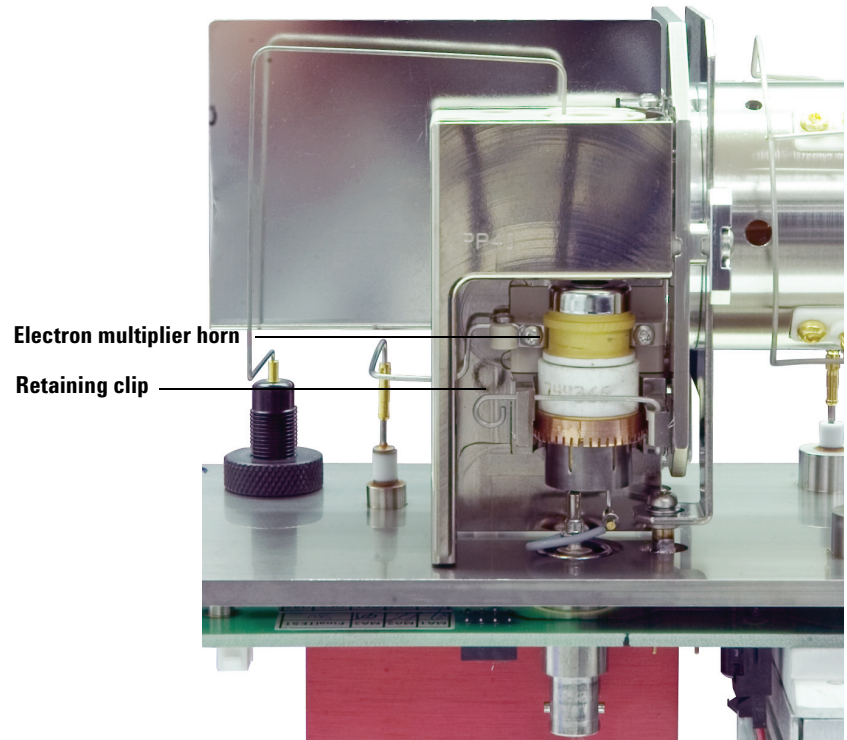

Figure 19 Replacing the electron multiplier horn
- 3 Open the retaining clip (Figure 19). Lift the arm of the clip up and then swing the clip away from the electron multiplier horn.